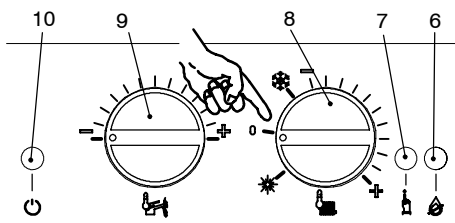
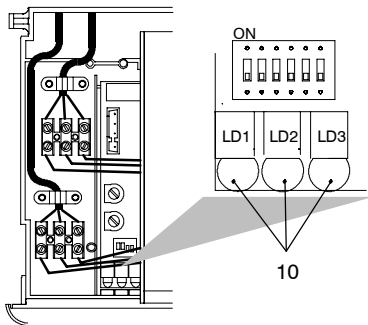

Fig. 8.3
Fig. 8.5
- 10 Turn the boiler OFF positioning the function selector 8 as indicated in Fig. 8.3
14 Press the reset button 7 (Fig. 8.3) repeatedly (4 times) until the lamps 10 give the indication as in Fig. 8.5 – Fig. 8.6 (gas type mode).